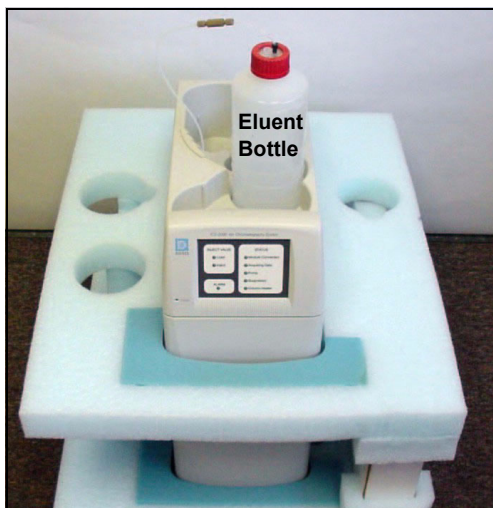

Figure 2. ICS-1000 with Eluent Bottle
2. Set the eluent bottle on top of the ICS-1000 (see Figure 2).